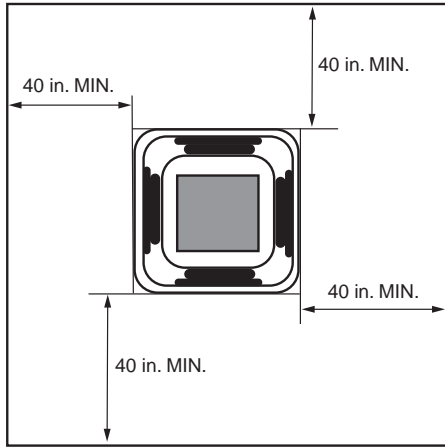

Fig. 4 — Distance from Wall or Obstruction
- The unit should be at least 3 1/4 ft from a wall or similar obstruction. See Fig. 4.